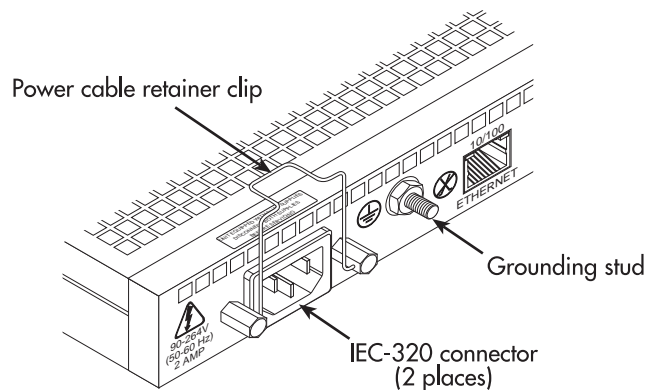

Figure 6. IEC-320 connector and grounding stud locations
1. Install a power cable into an IEC-320 connector (see figure 6).